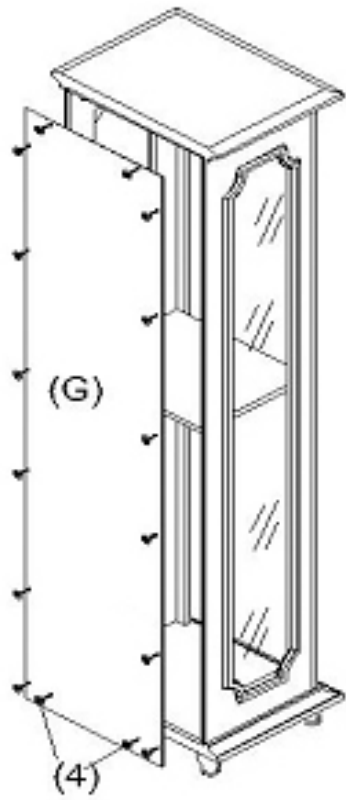

FIGURE 3
5. ATTACH BACK PANEL (G) INTO SLOT OF PARTS (A, B, E, F). TIGHTEN PAN HEAD WOOD SCREWS (4) THROUGH PREDRILLED HOLES ON BACK PANEL (G) INTO REAR EDGES OF PARTS (A, B, E, F). (AS SHOWN IN FIGURE 3)